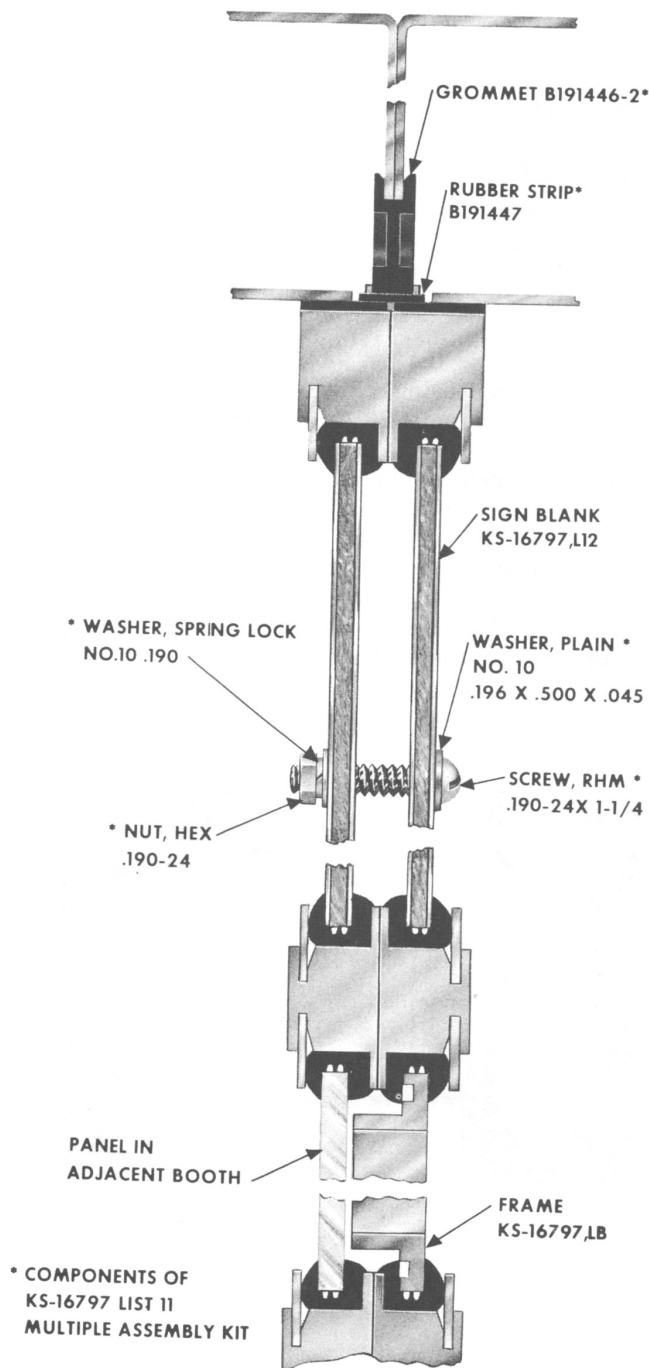

Fig. 3 - Connecting Booths
3. MULTIPLE BOOTH INSTALLATIONS (FIG. 3)